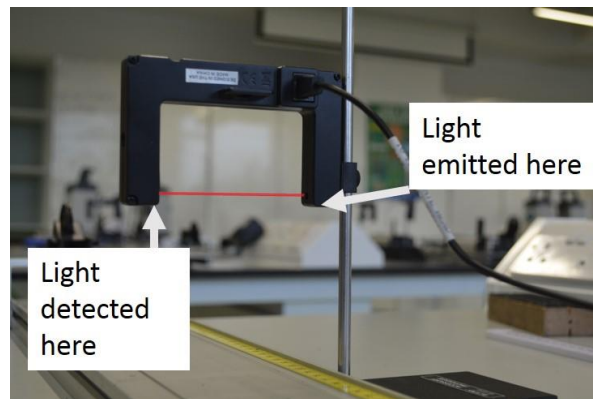

Fig 2
- The photogates comprise an infrared light source on one side, and a detector on the other, fig 2. Infrared light is invisible to the human eye but is represented by the red line in the figure. When the beam is interrupted it sends a signal to the blue data-logger.